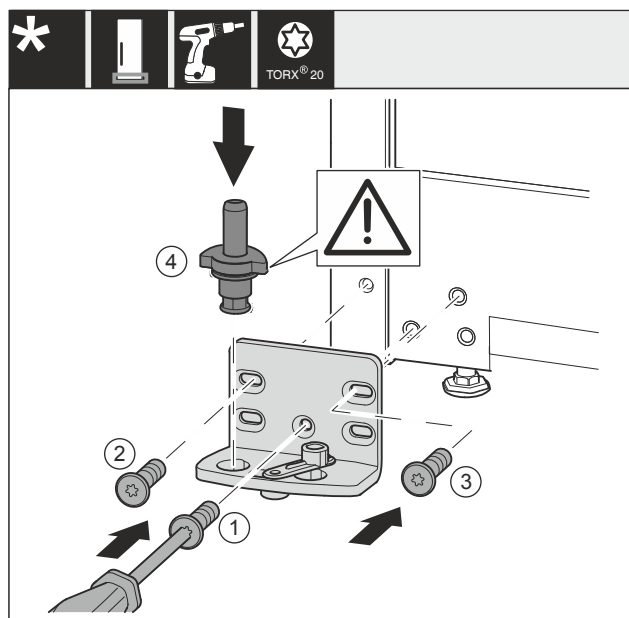

Fig. 37 *
- Place the swap bearing block on the other side and use a screwdriver to screw it on. Start with the Fig. 37 (1) bottom middle.*
- Tighten screw Fig. 37 (2) and Fig. 37 (3).*
- Insert the bearing bolt Fig. 37 (4) completely. Ensure that the latching cam is pointing towards the rear.*